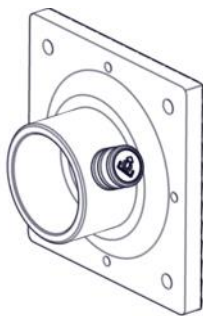

Figure 1-10. Rigid Strut Base 6
g. **Rigid Strut Base 6.** The Rigid Strut Base 6 (Figure 1-10) is a 6" (15.2 cm) square with non-skid grooved surface plate. The Rigid Strut Base 6 functions well against 90 degree parallel solid surfaces.